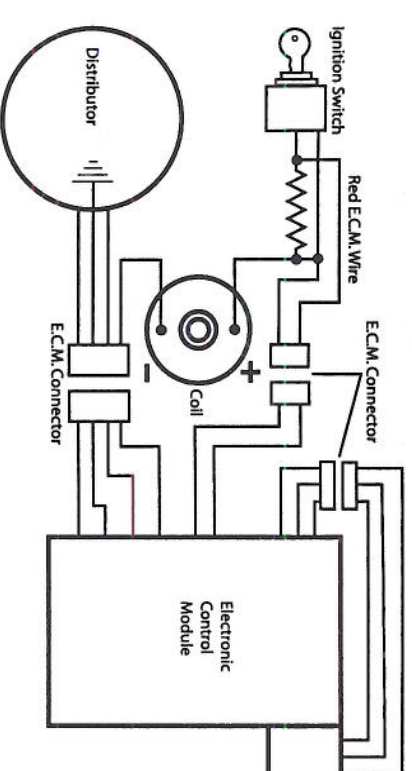

FIGURE 2
4. **A. Recommended:** Many vehicles came equipped with ballast resistors or resistance wires. To achieve optimum performance from the Ignitor II ignition system, we recommended removal of these components. (See Figure 2)